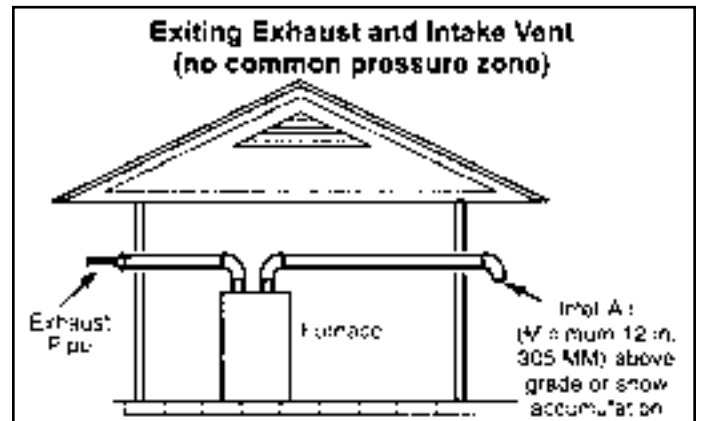

Figure 32.
1. Intake and exhaust terminations are not required to be in the same pressure zone. You may exit the intake on one side of the structure and the exhaust on another side (Figure 32). You may exit the exhaust out the roof and the intake out the side of the structure (Figure 33).